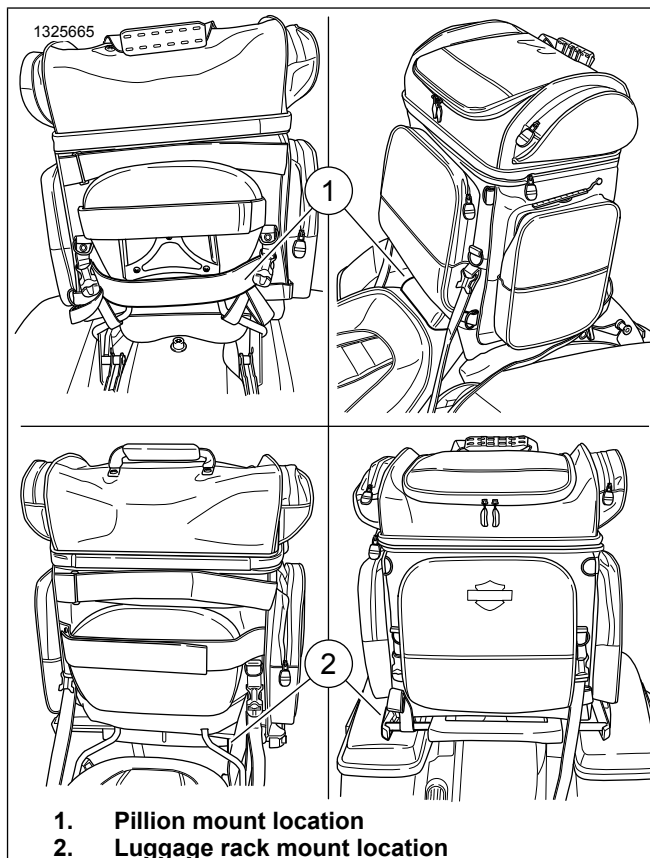

Figure 7. Touring
1. See Figure 7. Position bag on passenger pillion seat or luggage rack.